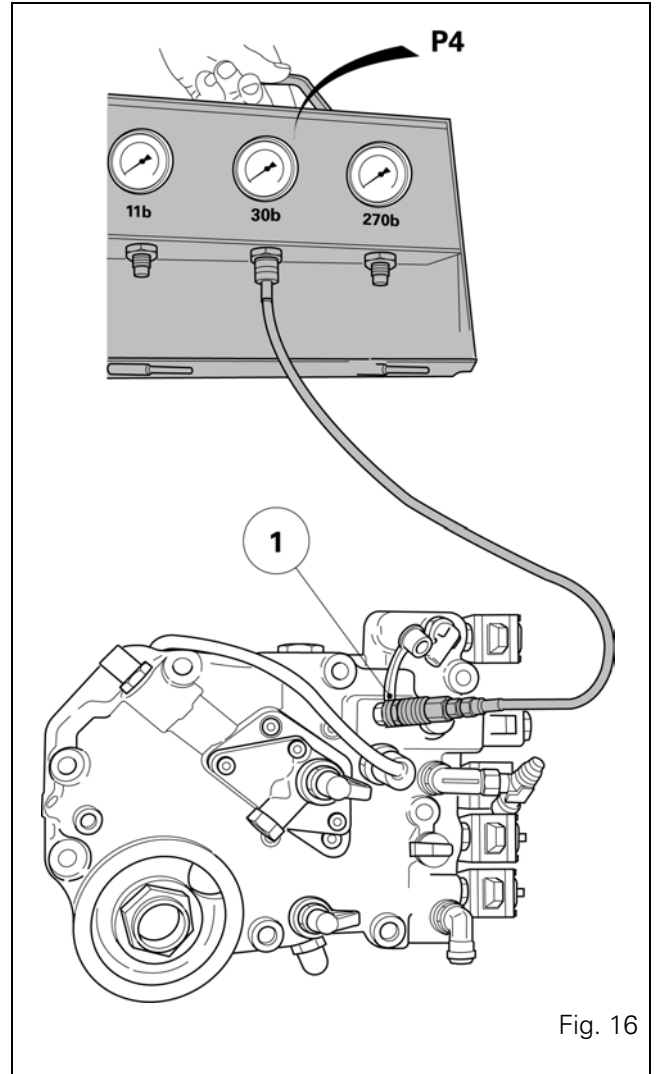

Fig. 16
- Connect a pressure gauge with a capacity of approximately 30 bar to the low pressure diagnostics connector (1) screwed into the upper part of the right-hand hydraulic cover (Fig. 16).
- Connect a pressure gauge with a capacity of 30 bar fitted with a coupler ref. 3582045M1 to the diagnostics connector (1) located on the right-hand side of the gearbox (Fig. 16).